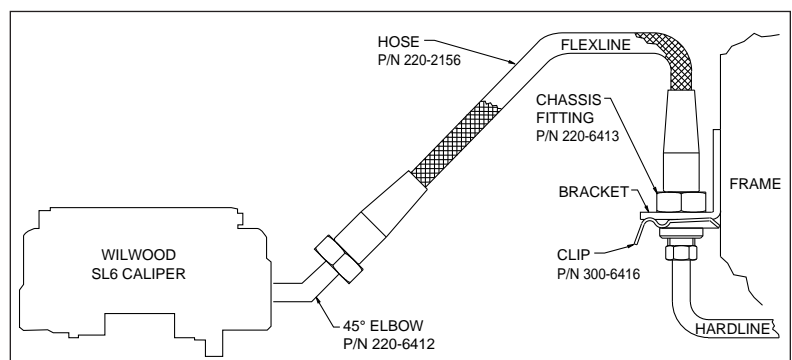

Figure 4. Brake Line Diagram
- Install Wilwood's optional stainless steel braided flexline hose kit, part number 220-9100 (NOT included in kit), see Figure 4. **NOTE: OEM rubber brake hoses generally cannot be adapted to Wilwood calipers. The caliper inlet fitting is a 1/8-27 NPT.** The preferred method is to use steel adapter fittings at the caliper, either straight, 45 or 90 degree and enough steel braided line to allow for full suspension travel and turning radius, lock to lock. **Carefully route lines to prevent contact with moving suspension, brake or wheel components.** Wilwood hose kits are designed for use in many different vehicle applications and it is the installer's responsibility to properly route and ensure adequate clearance and retention for brake hose components.